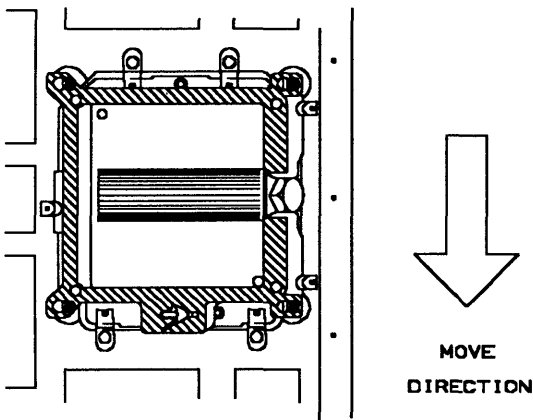

Figure 5-106. TCM Cammed Position
- Move the cam guard to its left side to insert the TCM actuation tool, see Figure 5-106.